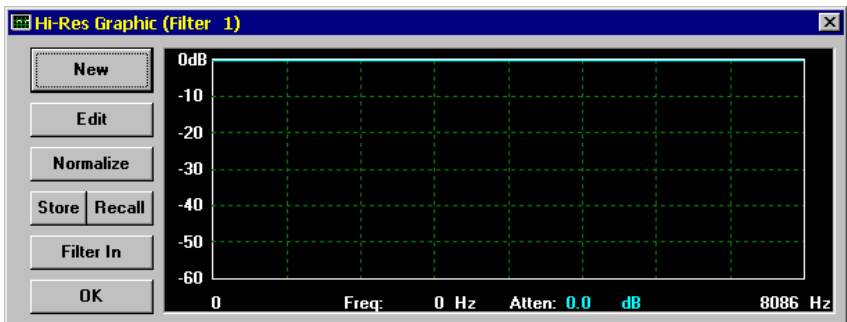

Figure 4-41 Hi-Res Graphic Filter Window
2. Click on the **Control** button in the **Filter 1** block to bring up the Hi-Res Graphic Filter control window. When used for the first time, the control window will be the that of the previous Figure 4-41.